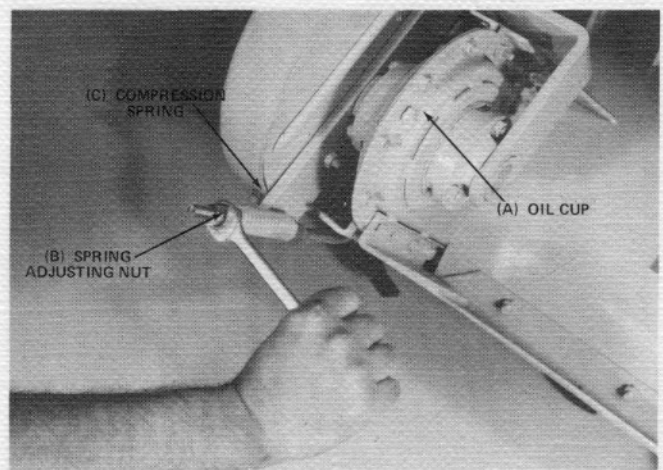

FIG. 12 – BELT TENSION & OIL CUP
Refer to Fig. 12
A few drops of 30 weight machine oil should be placed in the oil cup (A) on the upper portion of chain case before each seasonal use. (See Fig. 12.)
The Rototiller torque limiter (40 tooth sprocket assembly) provides protection by slipping when rocks or other debris are encountered. This unit is factory set and self-adjusts for wear. If unit requires service, contact your dealer. Should the drive belt start slipping excessively when tilling normal soil, its tension should be increased. Belt tension is increased by turning the nut on the threaded stud (B) shown in Fig. 12, so as to compress the spring (C). When the desired tension is reached, turn the top nut down to the other to lock them in place. **DO NOT OVER-TIGHTEN BELT.**